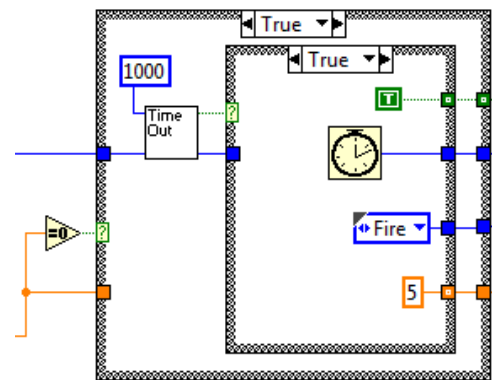

FIGURE 2.19
5. Now consider the case that executes when Count reaches zero. Fig. 2.19 shows just that case structure with the True case visible. Note that we need the timer one more time, because we have to mark off the “zero” second in the countdown. So, to go with the Timeout VI, there is again a new, innermost case structure. The True case